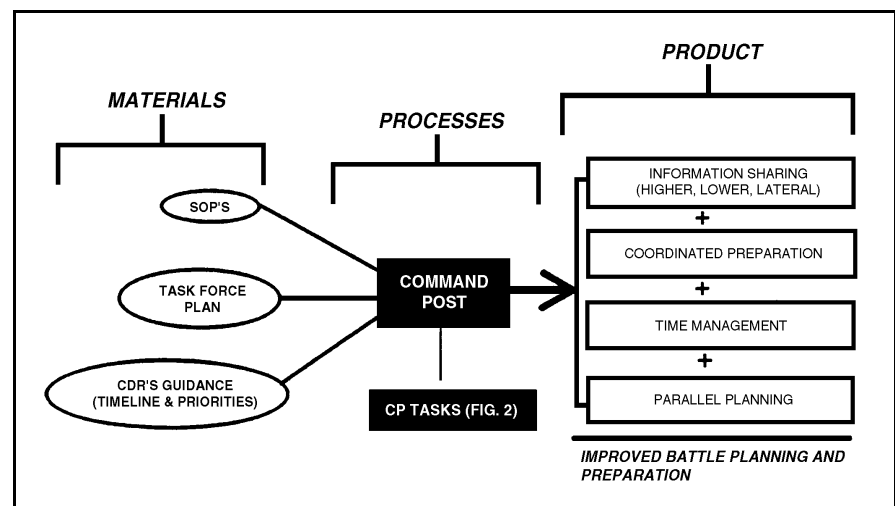

Figure 1
- 1. Purpose:** To enable the company/team to effectively accomplish battle preparation by providing a centralized point for information gathering and dissemination, coordination, time management, and tracking of unit status (Figure 1).